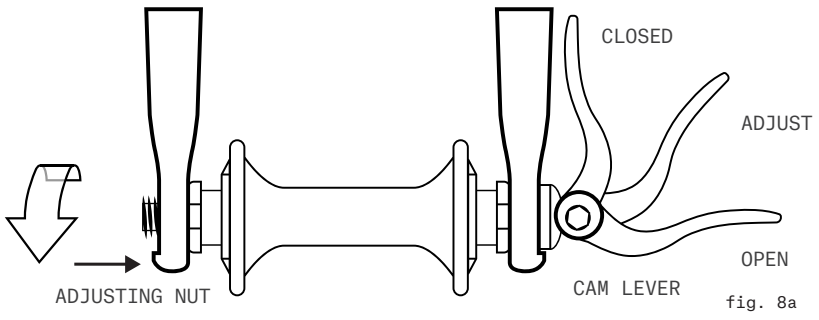
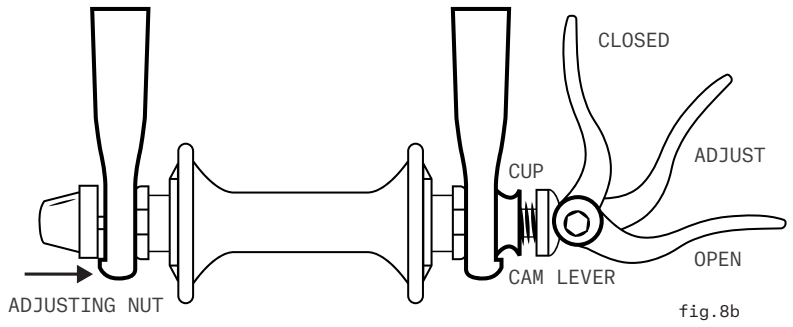

fig. 8a
fig.8b
There are currently two types of over-center cam wheel retention mechanisms: the traditional over-center cam (fig. 8a) and the cam-and-cup system (fig. 8b). Both use an over-center cam action to clamp the bike's wheel in place. Your
- a. Adjusting the traditional cam action mechanism (fig. 8a)
- b. Adjusting the cam-and-cup mechanism (fig. 8b)
- 2) If your bike has cam action front wheel retention, move the cam lever from the locked or CLOSED position to the OPEN position (figs. 8a & b). If your bike has through bolt or bolt-on front wheel retention, loosen the fastener(s) a few turns counter-clockwise using an appropriate wrench, lock key or the integral lever.
If your front fork has a clip-on type secondary retention device, disengage it. If your front fork has an integral secondary retention device, and a traditional cam action system (fig. 8a) loosen the tension adjusting nut enough to allow removing the wheel from the dropouts. If your front wheel uses a cam-and-cup system, (fig. 8b) squeeze the cup and cam lever together while removing the wheel. No rotation of any part is necessary with the cam-and-cup system.
- 1) If your bike has cam action front wheel retention, move the cam lever so that it curves away from the wheel (fig. 8b). This is the OPEN position. If your bike has through bolt or bolt-on front wheel retention, go to the next step.
- 2) With the steering fork facing forward, insert the wheel between the fork blades so that the axle seats firmly at the top of the fork dropouts. The cam lever, if there is one, should be on rider's left side of the bicycle (fig. 8a & b). If your bike has a clip-on type secondary retention device, engage it.
- 3) If you have a traditional cam action mechanism: holding the cam lever in the ADJUST position with your right hand, tighten the tension adjusting nut with your left hand until it is finger tight against the fork dropout (fig. 8a). If you have a cam-and-cup system: the nut and cup (fig. 8b) will have snapped into the recessed area of the fork dropouts and no adjustment should be required.
- a) With a cam action system, move the cam lever upwards and swing it into the CLOSED position (fig. 8a & b). The lever should now be parallel to the fork blade and curved toward the wheel. To apply enough clamping force, you should have to wrap your fingers around the fork blade for leverage, and the lever should leave a clear imprint in the palm of your hand.
- 4) With a cam action mechanism, move the quick-release lever to the OPEN position (fig. 8b). With a through bolt or bolt on mechanism, loosen the fastener(s) with an appropriate wrench, lock lever or integral lever; then push the wheel forward far enough to be able to remove the chain from the rear sprocket.
Some bikes are equipped with a cam action seat post binder. The seat post cam action binder works exactly like the traditional wheel cam action fastener (Section 4.A.2). While a cam action binder looks like a long bolt with a lever on one end and a nut on the other, the binder uses an over-center cam action to firmly clamp the seat post (see fig. 8a).